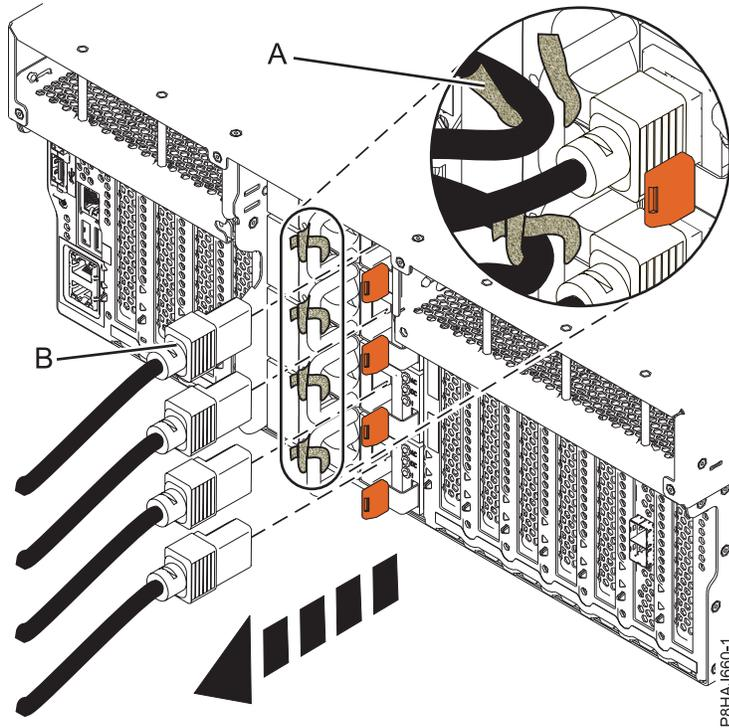
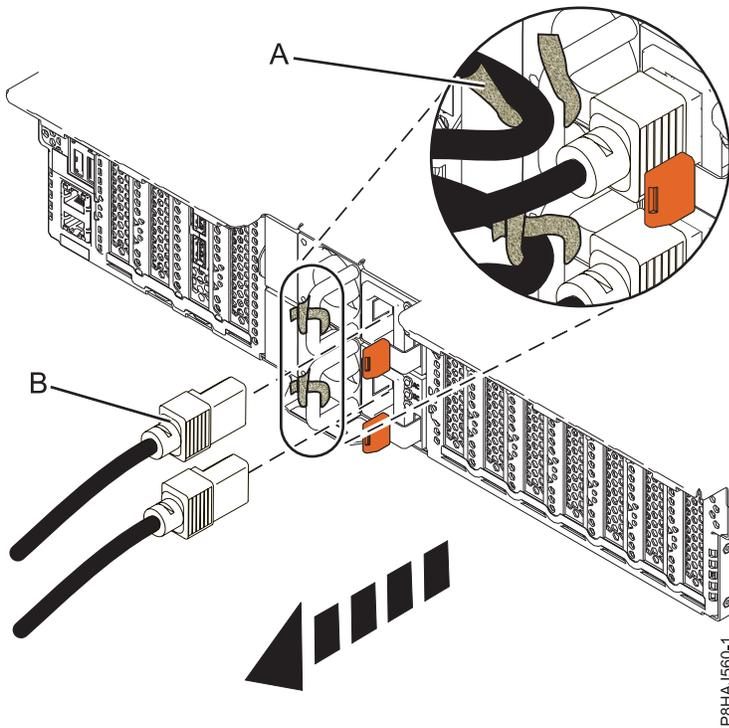
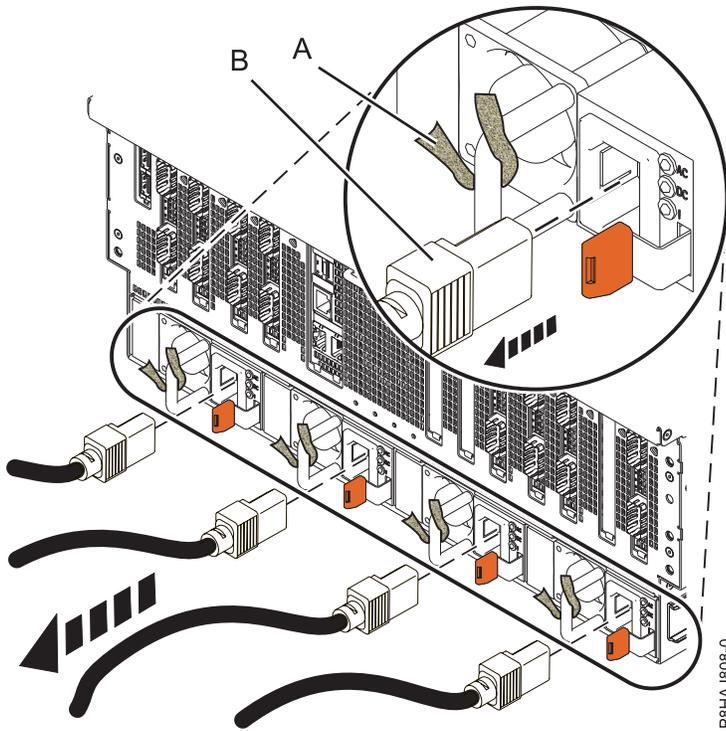

Figure 34. Removing the power cords from an 8247-42L, 8286-41A, or 8286-42A system
Figure 35. Removing the power cords from an 5148-21L, 5148-22L, 8247-21L, 8247-22L, 8284-21A, or 8284-22A system
Figure 36. Removing the power cords from an 8408-44E or 8408-E8E system
3. Disconnect the power cords (B) from the system unit. See Figure 34 on page 45, Figure 35 on page 45, or Figure 36 on page 46 or depending on the type of your system.